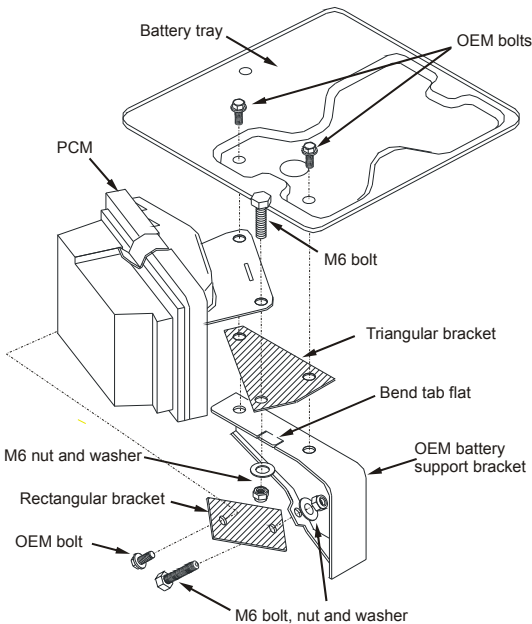

Figure 5.7
- Place the small end of the triangular upper PCM mounting bracket under back mounting hole of the PCM. Insert an OEM bolt through the PCM and the bracket and thread it into the rear-most mounting hole on the battery support rail (Figure 5.7).